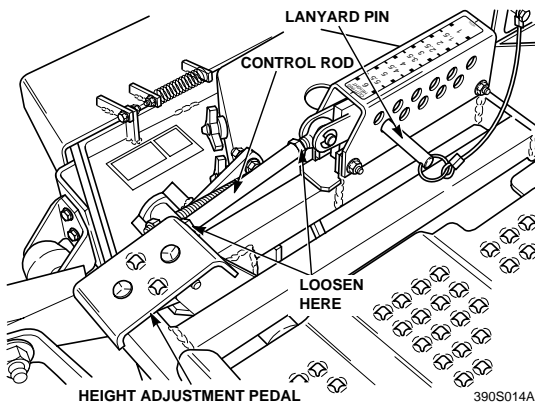
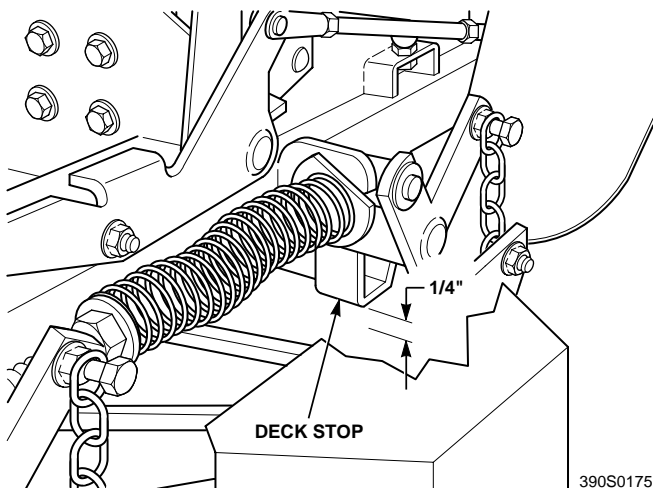

Figure 6-6. Cutter Deck Height Adjustment
Figure 6-7. Cutter Deck Stop
1. Place the cutter deck in the transport position. Loosen the jam nuts on both ends of the deck height control rod. (See Figure 6-6)
2. Turn the control rod (See Figure 6-6) until there is a 1/4" space between the rear deck stop and the top of the cutter deck. (See Figure 6-7). Tighten the jam nuts on the control rod.
4. Check the measurement from the floor to the cutter blade tip. If the measurement is not at 3", an adjustment can be made using the deck height control rod. (See Figure 6-6)